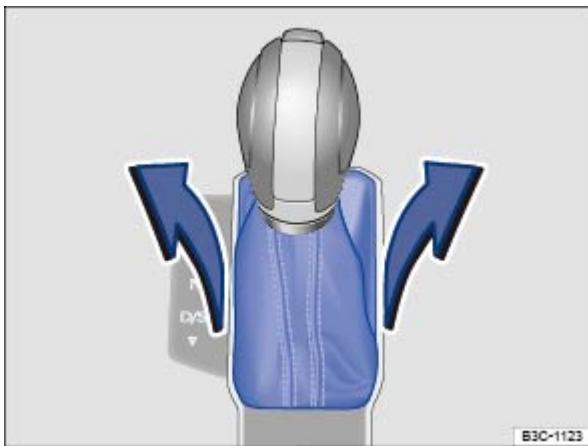

Fig. 115 Removing the selector gate cover.
- Carefully pull upward on the cover around the selector lever ⇒ Fig. 115.